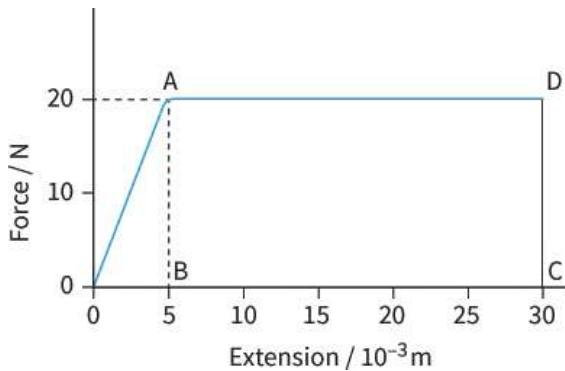

Figure 7.18: For Worked example 4.
- 4 Figure 7.18 shows a simplified version of a force-extension graph for a piece of metal. Find the elastic potential energy when the metal is stretched to its limit of proportionality, and the total work that must be done to break the metal.